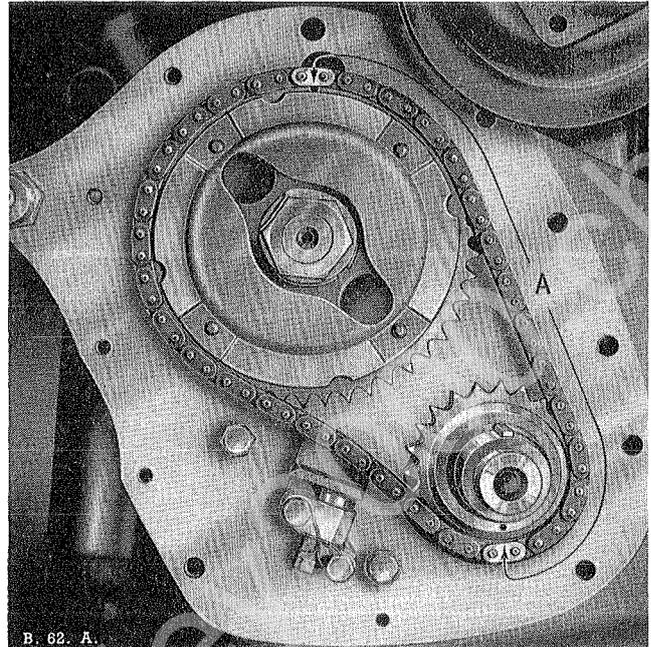

Fig. A.21. The timing chain showing bright links opposite spot marks on gears. 'A' shows the position of the short run of chain between the bright links.
- (2) When replacing the timing chain and gears, set the crankshaft and camshaft with the keyways approximately at T.D.C. when seen from the front. Double the timing chain, bringing both bright links together. This gives a long and short portion of the chain on either side of the bright links. With the shorter part of the chain on the **Right**, (the bright links facing the operator), and the longer on the **Left**, engage the marked camshaft sprocket tooth with the top bright link, and the crankshaft sprocket with the marked tooth coinciding with the other bright link. Place the sprockets in their respective positions on the camshaft and crankshaft, complete with the chain, and push the assembly home. Carefully keep the sprockets in line with each other all the time to avoid straining the chain. When replaced on the engine, the bright links and the marked teeth should take up the position shown in fig. A.21.
- (3) Replace the camshaft chain wheel locking washer and nut.
- (4) Apply engine oil to the timing chain and wheels before installing the cover.
- (5) Replace the oil thrower, concave side towards the front of the engine.
- (6) Use camshaft pulley boss, or Service Tool No. 18G 3 to locate the timing cover felt washer before the timing cover flange bolts are tightened. **Note:** A new joint washer should be fitted between the timing cover and the front mounting plate.